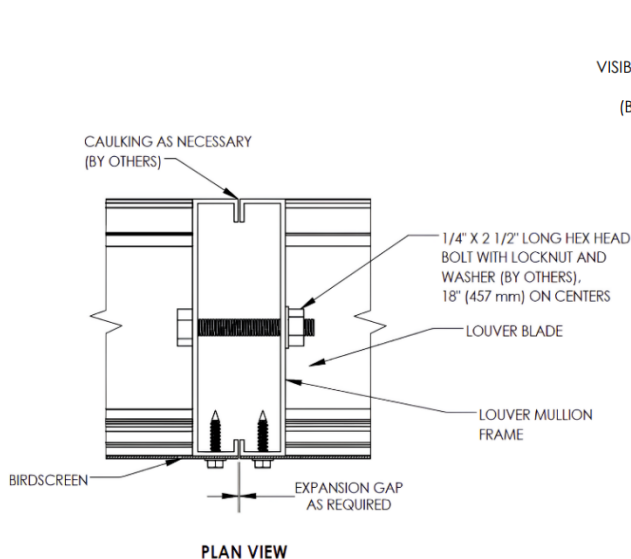
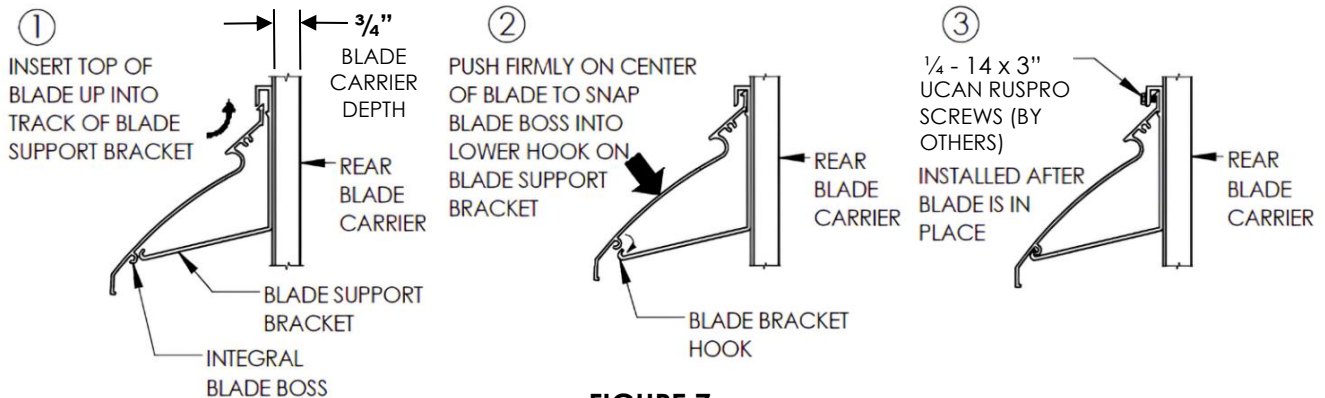
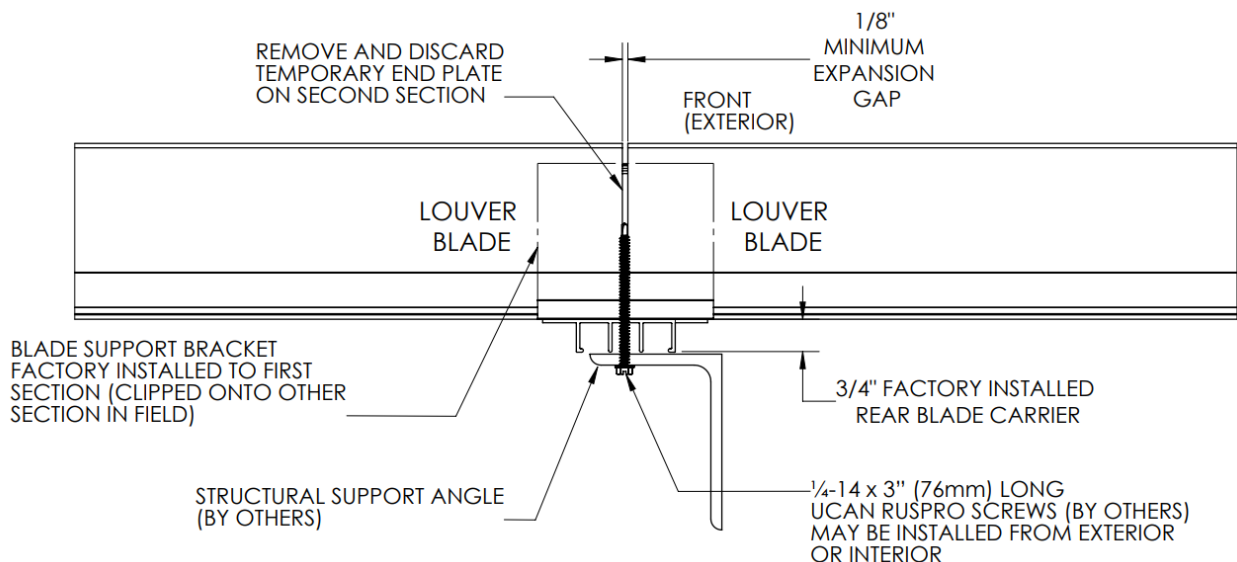

FIGURE 3
FIGURE 7
FIGURE 8
Install the left section first (as viewed from building exterior), then other sections progressively working from left to right. Use shims to position the louver so that it is both level and plumb in the opening and the desired sealant gap is achieved at the perimeter. When the louver is in the appropriate position, fasten perimeter louver frame to clip angles, and any rear intermediate mullions/blade supports to structural bracing using minimum #12 x 1" stainless steel self-tapping sheet metal screws (by others) spaced on maximum 18" (457mm) centers. (Refer to **Figure 7** for center details.) For taller vertical mullions (fixed blade louvers only) where no bracing is present, mullion frames may be fastened together as necessary using minimum 1/4" dia. x 2 1/2" long bolts with lock nuts and washers spaced on maximum 18" (457mm) centers (see **Figures 3 and 4**). After fastening is complete, install backer rods if necessary (by others) and apply caulking (by others) around the perimeter of the louver.
3) AFTER REMOVING THE TEMPORARY JAMB, JOIN THE TWO LOUVER SECTIONS USING THE BLADE BRACKET (SEE FIG 7 & 8)
Install the left section first (as viewed from building exterior), then other sections progressively working from left to right. Use shims to position the louver so that it is both level and plumb in the opening and the desired sealant gap is achieved at the perimeter. When the louver is in the appropriate position, fasten perimeter louver frame to clip angles, and any rear intermediate mullions/blade supports to structural bracing, using minimum #12 x 1" stainless steel self-tapping sheet metal screws (by others). After removing the temporary end plate from the second section, install the section, aligning the blade ends with the corresponding blade support brackets factory installed on the first section, guiding the top of each blade up into the top track of each blade support bracket (see **Figure 7**). Firmly push center of each blade end to snap the integral blade boss into hook of blade bracket. Secure each blade to bracket and carrier using #12 x 1" (25mm) stainless steel self-tapping sheet metal screw (by others) (see **Figures 7 and 8**). Section should be positioned to provide appropriate expansion gap of Min. 1/8" between ends of blades. Repeat process for additional sections. After fastening is complete, install backer rods if necessary (by others) and apply caulking (by others) around perimeter of frame. When viewed from a distance of 10 ft, the blades must appear straight and evenly aligned (see Figure).
Install the lower sections first. Start with the far-left section (as viewed from building exterior), then other sections progressively working from left to right (see **Figure 8**). Use shims to position the louver so that it is level and plumb in the opening and the desired sealant gap is achieved at the perimeter. When the louver is in the appropriate position, fasten perimeter louver frame to clip angles, and any rear intermediate mullions/blade supports to structural bracing, using minimum #12 x 1" stainless steel self-tapping sheet metal screws (by others). After removing the temporary end plate from the second section, install the section, aligning the blade ends with the corresponding blade support brackets factory installed on the first section, guiding the top of each blade up into the top track of each blade support bracket (see **Figure 7**). Firmly push center of each blade end to snap the integral blade boss into hook of blade bracket. Secure each blade to bracket and carrier using #12 x 1" (25mm) stainless steel self-tapping sheet metal screw (by others) (see **Figures 7 and 8**). Section should be positioned to provide appropriate expansion gap between ends of blades. Repeat process for upper sections. A thin bead of caulking may be applied between upper and lower side jamb frame sections to ensure water tightness, especially on drainable louvers. Upper and lower sections may be fastened together at side jamb frames using splice angles. Secure upper and lower rear blade carriers to structural bracing using minimum #12 x 1-1/2" stainless steel screws (by others) (see **Figure 11**). After fastening is complete, install backer rods, if necessary (by others) and apply caulking (by others), around perimeter of frame.